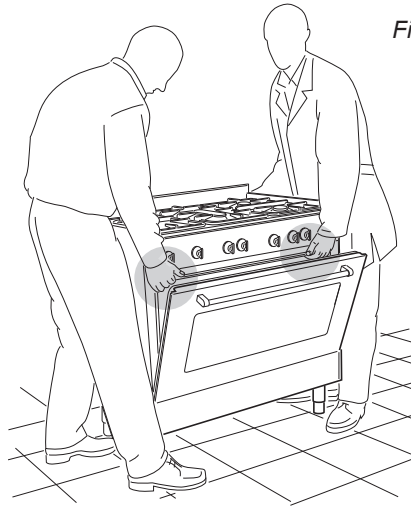

Fig. 1.6
**WARNING:** When raising cooker to upright position always ensure two people carry out this manoeuvre to prevent damage to the adjustable feet (fig. 1.6).
When moving cooker to its final position DO NOT DRAG (fig. 1.8). Lift feet clear of floor (fig. 1.6).